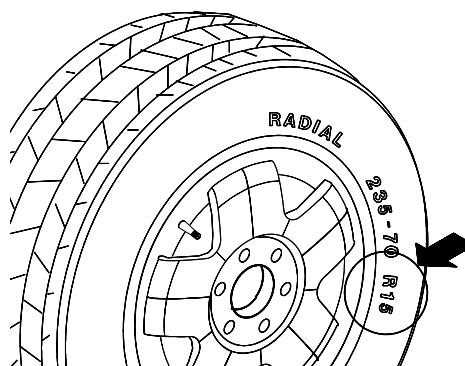

Figure 24
**4.5.2.3 Manual Rim Diameter Entry** - Select the Manual Parameter button (#11 page 9). Read the rim diameter marked on the sidewall of the tire (Figure 24). Enter the measured rim diameter by pressing the **Parameter** button followed by the **UP** or **Down** arrow button until the desired value appears in the right display.